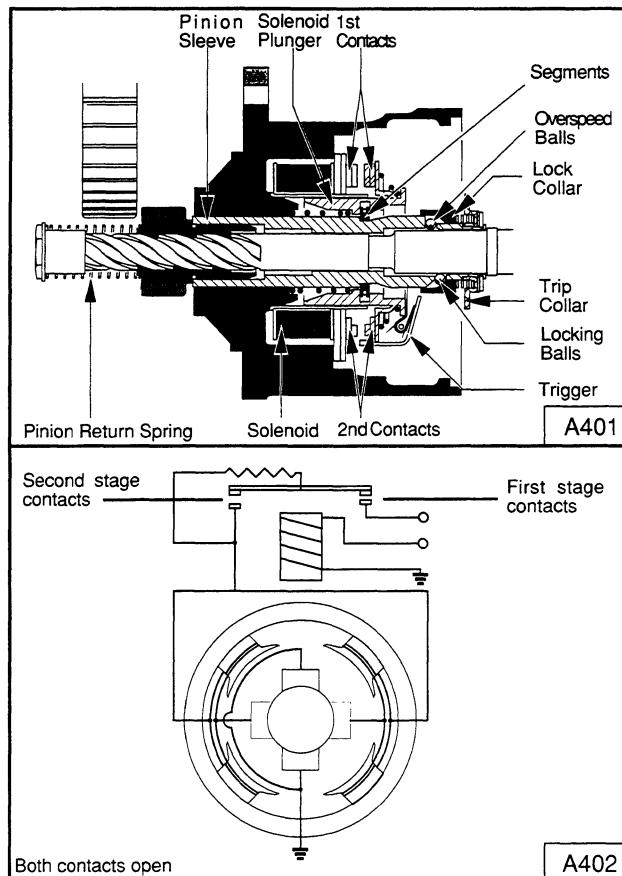

Fig. 2 Rest Position
1.2.1 Rest position (See Fig. 2)